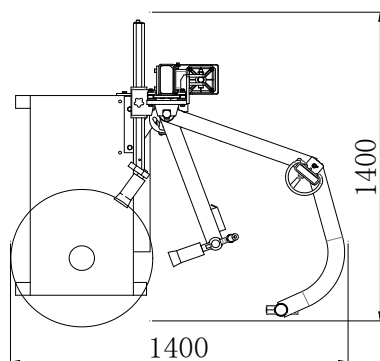

Fig 9
**Fig 9** shows the minimum distance (cm) from walls after assembly this auxiliary device. Please choose the right place to install it.